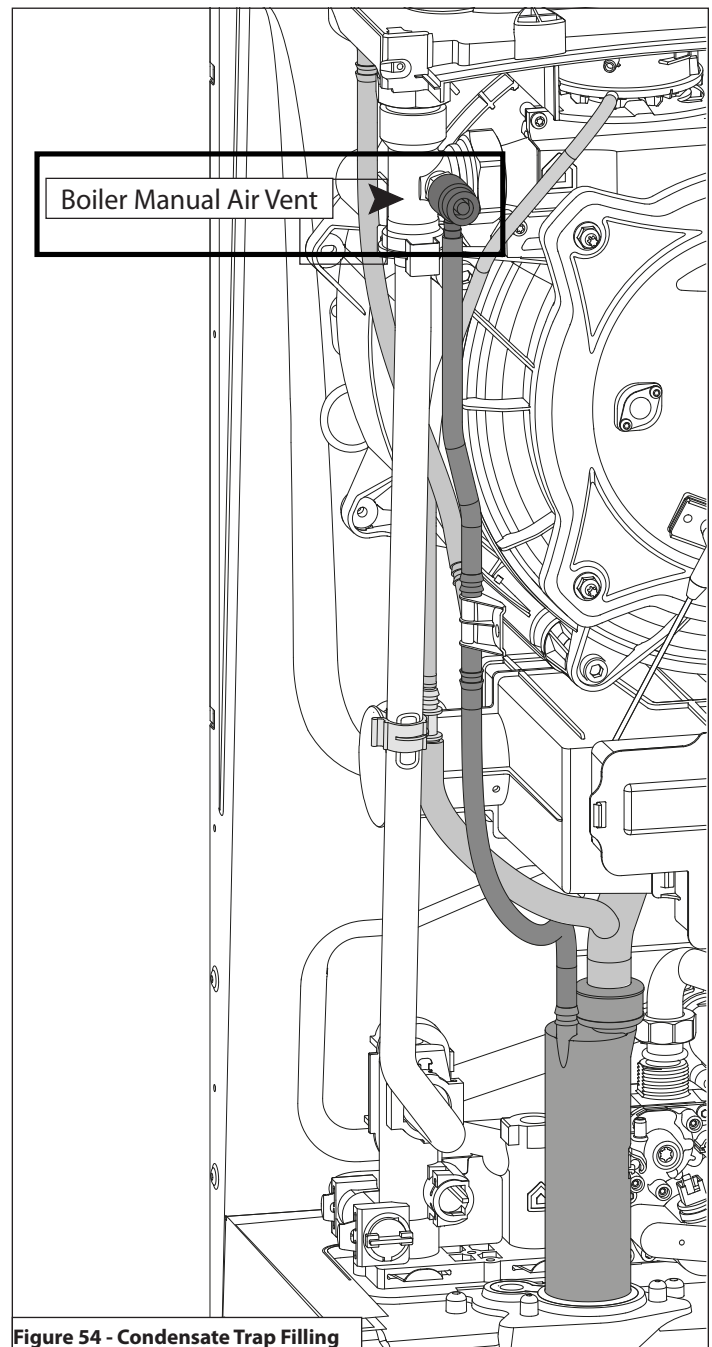

Figure 54 - Condensate Trap Filling
6. Local building codes may require an in-line neutralizer to be installed (not included) to treat the condensate. See Figure 54. If required by local authorities, a condensate filter of lime crystals, marble, or phosphate chips will neutralize slightly acidic condensate. Follow all the installation instructions included with the neutralizer. If a neutralizer is installed, periodic replacement of the limestone (or neutralizing agent) will be required. The rate of depletion of the limestone varies with usage of the boiler. During the first year of boiler operation, check the neutralizer every few months for depletion.
Ensure the siphon contains water. If the siphon does not contain water it must be filled. Open the manual air vent on the main heat exchanger until filling is complete. See Figure 54. Check the system pressure with a pressure gauge.